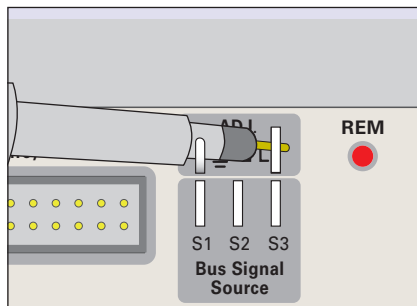

Fig. 4.3: Correct connection of the probe to the probe adjust output
**Passive probes be compensated prior to first use. Please refer to the probe manual for the proper compensation procedure. Place the probe in the appropriate position on the ADJ. output such that the tip will be accepted by the hole of the right output while the ground connection is made to the left output, as shown in Fig. 4.3 in chapter 4.**